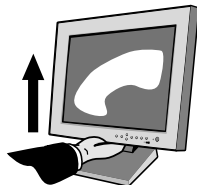
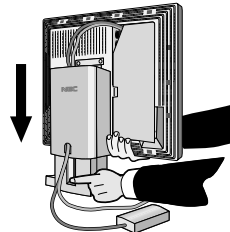
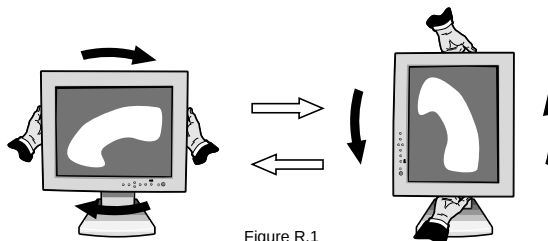

Figure RL.1
Figure RL.2
Figure R.1
The monitor may be raised or lowered in either Portrait or Landscape mode. To raise or lower screen, place one hand under bottom of screen, lift or lower slightly (Figure RL.1) and simultaneously push the button on the bottom back of the stand (Figure RL.2). Screen will lower while button is pushed in. Release button to lock screen in place.
Before rotating, the screen must be raised to the highest level to avoid knocking the screen on the desk or pinching your fingers. To raise the screen, place one hand under bottom of screen, lift up and simultaneously push the button on the bottom back of the stand (Figure RL.2). To rotate screen, place hands on each side of the monitor screen and turn clockwise from Landscape to Portrait or counter-clockwise from Portrait to Landscape (Figure R.1). To toggle the orientation of the OSM menu between Landscape and Portrait modes, press the RESET button while OSM menu is off.
2. Place one hand under bottom of screen, lift up and simultaneously push the button on the bottom back of the stand (Figure RL.2) to the maximum height.